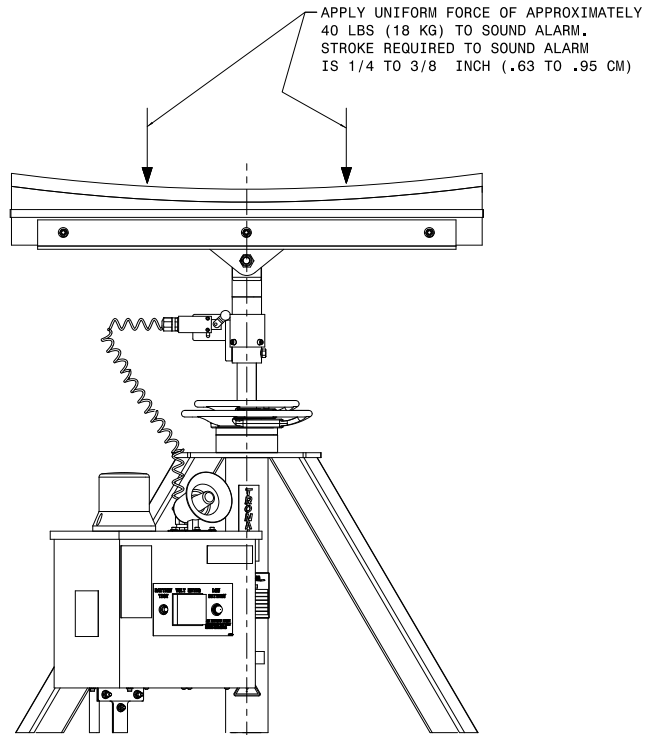

Figure 3
3. Test alarm by slowly applying a force evenly distributed across the top of the cradle. The cradle head will lower and engage a limit switch. A loud alarm will then sound when the force reaches approximately 40 lbs (18.1 kg) or cradle stroke $\frac{1}{4}$ inch to $\frac{3}{8}$ inch (.63 cm to .95 cm). If alarm does not sound, refer to the Troubleshooting section. Reference Figure 3